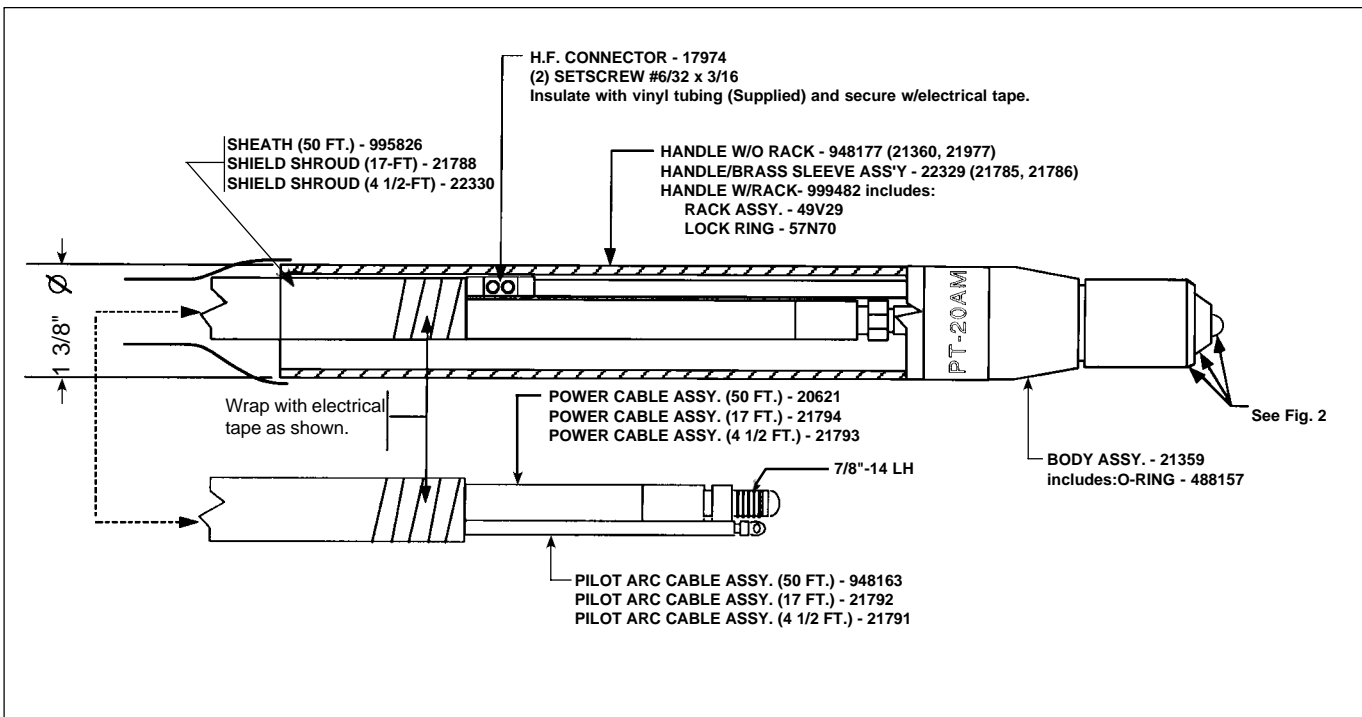

Fig. 3 - PT-20AM Torch Assembly:
G. Removal and Replacement of the Torch Body (Refer to Fig. 3)
H. Removal and Replacement of the Torch Cables (Refer to Fig. 3)
Replacement parts are keyed in Fig. 3 and 4. Order replacement parts by part number and part name as shown on the illustrations. DO NOT order by part number alone. Parts may be ordered from your ESAB welding equipment distributor or from ESAB Welding & Cutting Products, Customer Service Department, Florence, SC.